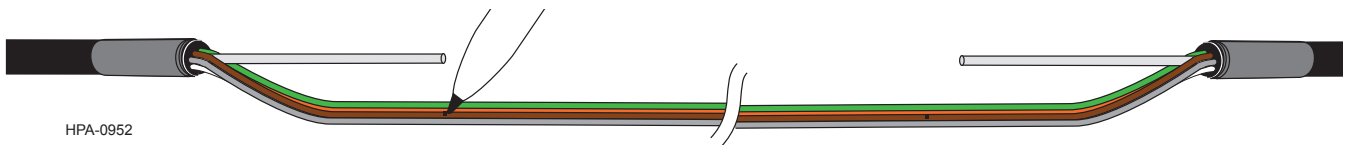

Figure 19
Step 2: Use a permanent marking pen to mark the tube(s) with both start and end points to indicate the length of buffer tube to be opened (Figure 19). The length of opening is dependent on the installation, tray requirements, and the available fiber needed for splicing and routing.